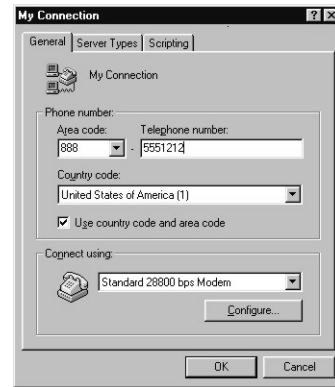

Figure 19 - General Tab
19. After selecting PROPERTIES, the "General" tab will be displayed. (Fig. 19)
20. Select the "Server Types" tab. (Fig. 19)